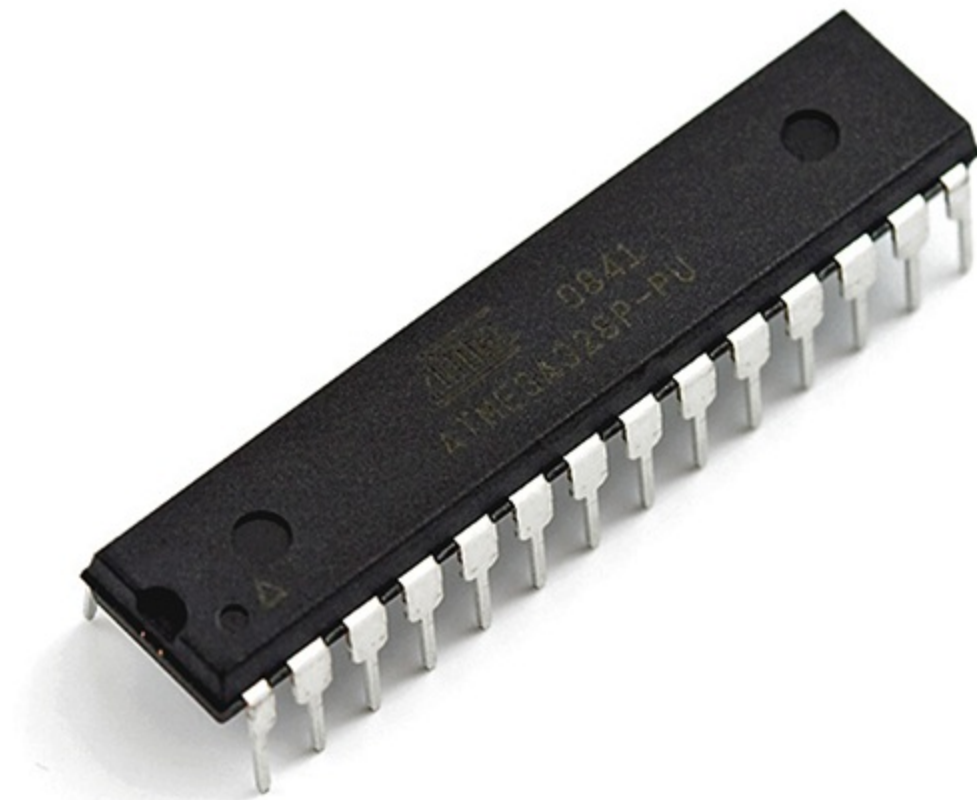

Figure 1-2: The Arduino's brain, an ATmega328 microcontroller.
tiny spaces like a project box. How small are microcontrollers? Physically, the one on the Arduino is about as large as they come, about half the size of a pack of gum, as you can see in Figure 1-2. The microcontroller is the rectangular *integrated circuit (IC)* on the blue *printed circuit board (PCB)*. It's that size because it's easy to handle with your fingers, so you can replace the microcontroller on your Arduino if it croaks for some reason. But microcontrollers start about this large and go down from there, all the way to the microscopic level. The main factors that determine their size are their capabilities and cost. In fact, the actual processor *core* on your Arduino chip is much, much smaller than the exterior IC chip itself.
The best part about *microcontrollers* is that they are inexpensive, unlike their big brothers, the *microprocessors* in your computer, laptop, tablet, or phone. Microcontrollers are inexpensive because they have limited capabilities (see Figure 1-2). They are mainly designed to control things or otherwise respond to sensory input, and are called *embedded systems*. Bigger computers have more general capabilities and need more power and therefore, cost more, and use *general purpose* microprocessors.